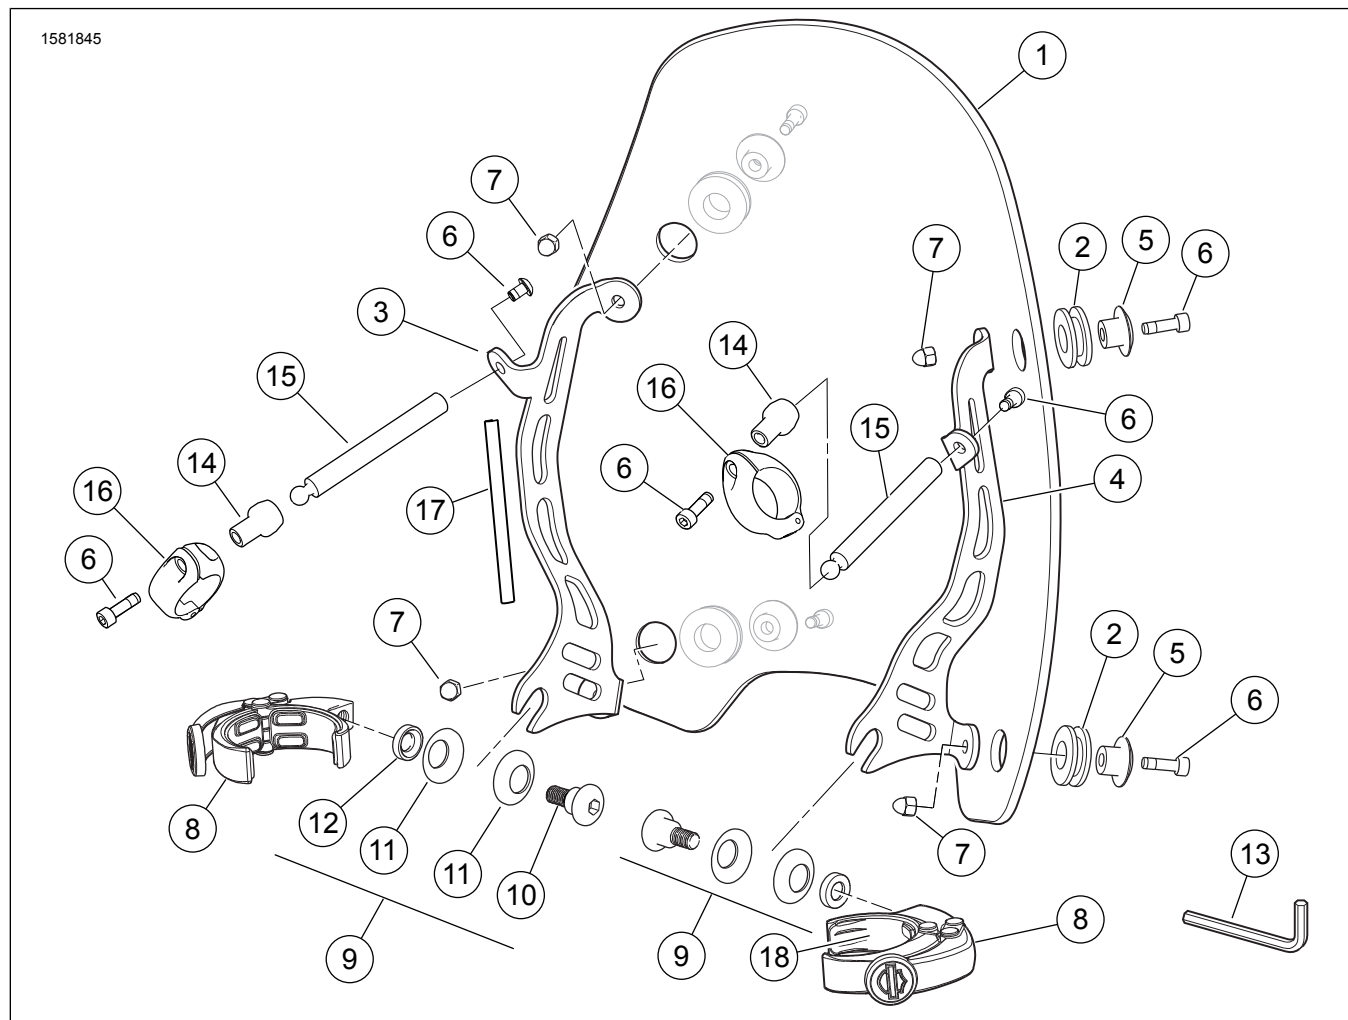

Figure 2. Service Parts, XL1200CX Windshield
See Figure 2 and Table 1.
1. See Figure 2. Remove the windshield sub-assembly (1-7) from packaging. Place face down on a clean, soft surface with mount brackets (3, 4) facing upwards.
2. Unpack the hardware kit (9).
- a. With the cupped sides facing each other, install two Belleville washers (11) onto the threads of one shoulder bolt (10).
- b. Install the cup washer spacer (12) onto the shoulder bolt threads.
3. Thread a shoulder bolt and washer assembly (9) into a Quick-Clamp (8), but do not fully tighten now. With the clamp facing outward, align the assembly with the lower notch of one windshield mount bracket (3 or 4). Position a Belleville washer (11) on each side of the windshield mount bracket. Slide the clamp assembly into the notch. Tighten the shoulder bolt (10) finger-tight. Repeat for the other mount bracket.
4. Install the Quick-Clamp (8) perpendicular to the windshield mount bracket, as shown in Figure 2. Align the second Quick-Clamp with the first. Final adjustments are made when attaching the clamps to the vehicle fork tubes. Tighten shoulder bolts (10).
11. Install the trim strip (9) over the edge of the clutch-side windshield mount bracket to protect the clutch cable.
12. See Figure 2. Adjust the orientation of the Quick-Clamps (8) against the Belleville washer (11) resistance so the clamps are perpendicular to the fork tubes.
14. Tighten the shoulder bolts (10) at the windshield mount brackets (3-4).